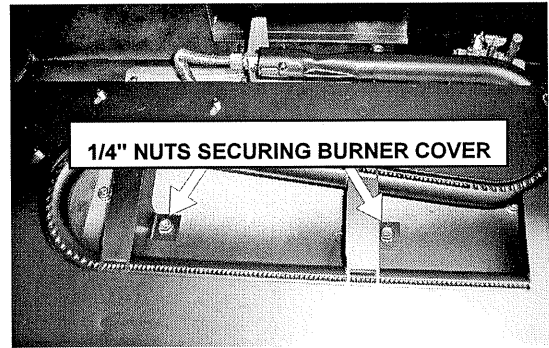

Figure F-2
4. Place the burner cover assembly onto the board, properly seating the burner tube over the orifice and aligning the holes in the mounting brackets attached to the cover to the studs on the millivolt board. Secure with the (2) nuts previously removed. Figure F-2.